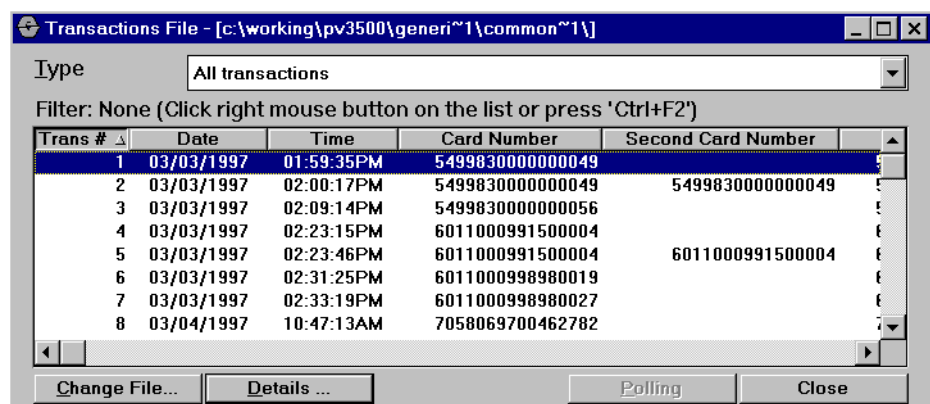

Figure 50: Transaction File Detail Window
2. Double-click the file where transactions are stored (default is “transact.dbf”), or select a file and click **Ok**. Either opens the Transactions File list box (*Figure 50*).